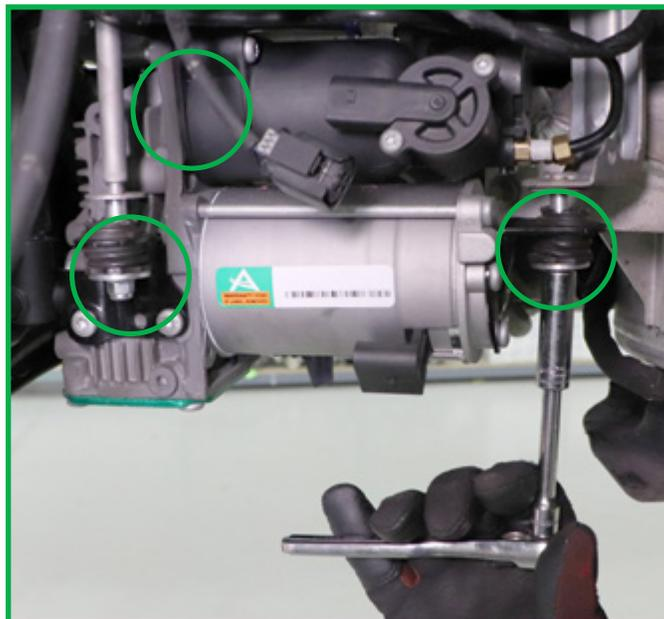

FIGURE 16
3. Using the Arnott provided isolators, washers, and mounting nuts; install the compressor back on to the vehicle in the correct orientation. Tighten the mounting nuts to manufacturer's specifications. (Figure 16)